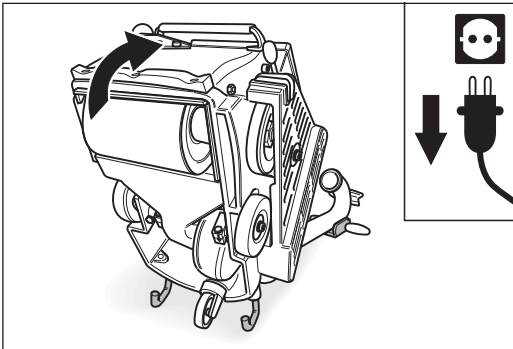

Fig. 99 **Pull the power plug out of the socket!** Tilt the machine backwards. **Ensure that the machine is standing securely!**
- 3 Tilt the machine backwards over the safety guards (fig. 99). **Ensure that the machine is standing securely!**